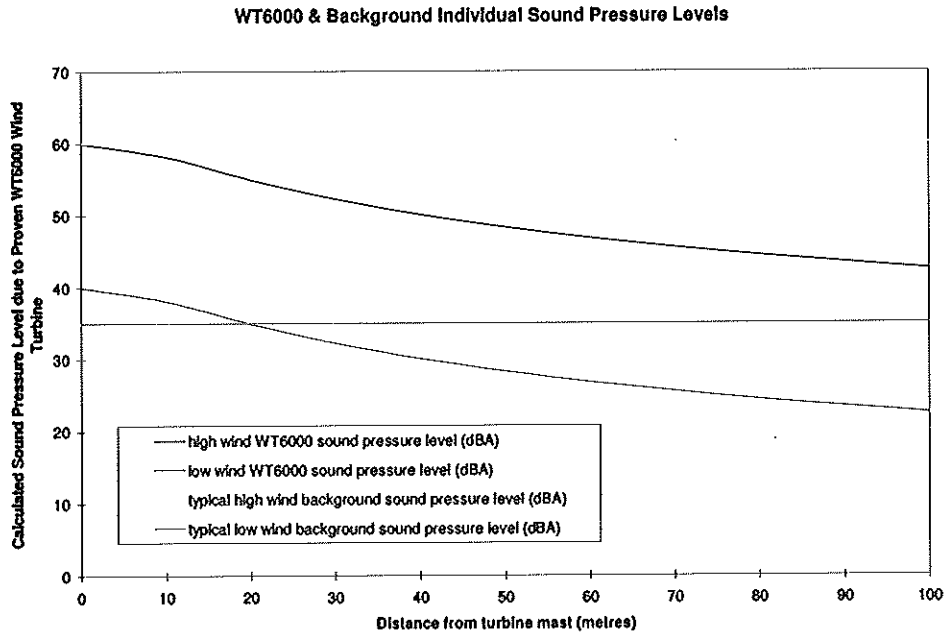

Figure 1
Figure 1 shows how the noise emitted by a Proven WT6000 wind turbine on a 15m mast will disperse over the local environment. Maximum noise output at the base of the machine was recorded at 60dB(A) at a wind speed of 20 m/s. The noise output at the base of the mast in light winds 5m/s was 40 dB(A). The sound meter was held at a height of 1.5m from the ground. Background noise is louder than the turbine when more than 25m from the mast in both cases.